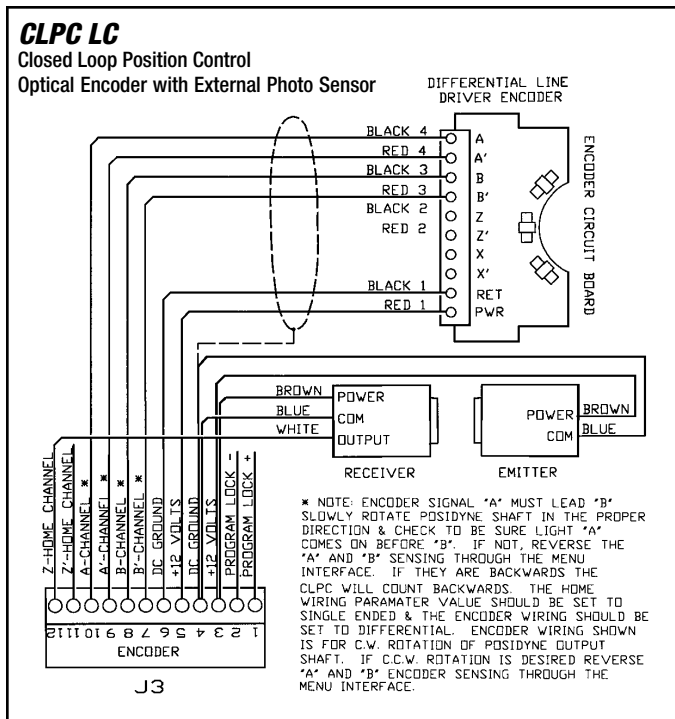

Figure 3.14 - Wiring Diagram - Terminal Block #J3 (With External Photo Sensor)
**C. CLPC LC Control to Optical Encoder with External Photo Sensor** (See Figure 3.14)